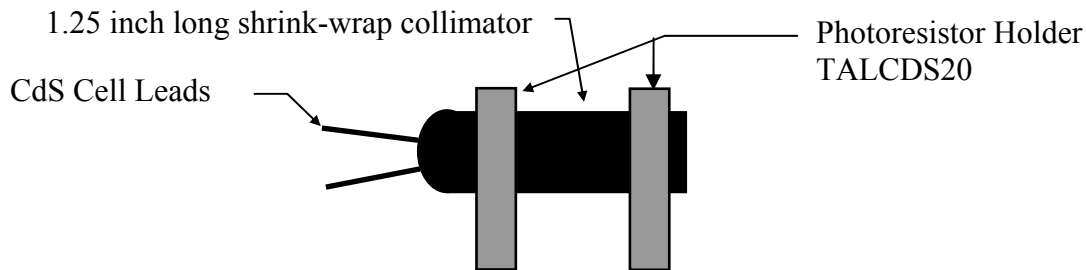

Figure 23 . This diagram illustrates the optional cannon mounting of photoresistors on the *Top Plate*.
5. (Figure 22 and Figure 23) (Optional) Superglue the *Photoresistor Holders* on the top side of the *Top Plate*. If you do not plan to use any photoresistor sensors around the periphery, this step can be skipped. If you change your mind later, you can always glue as many as you want into position. The radial mounting of two successive holders allows you to stably position and point the photoresistor sensor radially.
You can optionally mount up to eight radially-directed Photoresistor around the *TopPlate* using *Photoresistor Holder* pairs (Figure 22). The technique for mounting them in a cannon configuration is illustrated in Figure 23. A stiff grade shrink-wrap collimates the light striking the CdS cell. The photoresistor slides through the two *Photoresistor Holders* (TALCDS20), slightly projecting out the outermost holder. This arrangement makes the photoresistor extremely direction sensitive to incident light. To obtain less direction sensitivity, you will need to shorten the barrel suitable to your application. In such cases you may only need the one of Photoresistor Holders. If you want a cell sensitive to overall ambient light, just encase the edge of the cell and its leads.